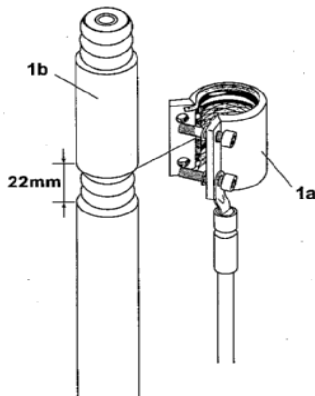

Figure 12
- Prepare ground kit, as shown in Figure 12 1a.
- Clean the plastic sheath of the control cables, cutting plastic sheath with a suitable stripper tool, expose metal braid sheath of control cable, with length about 22mm, as shown in the Figure 12 1b.